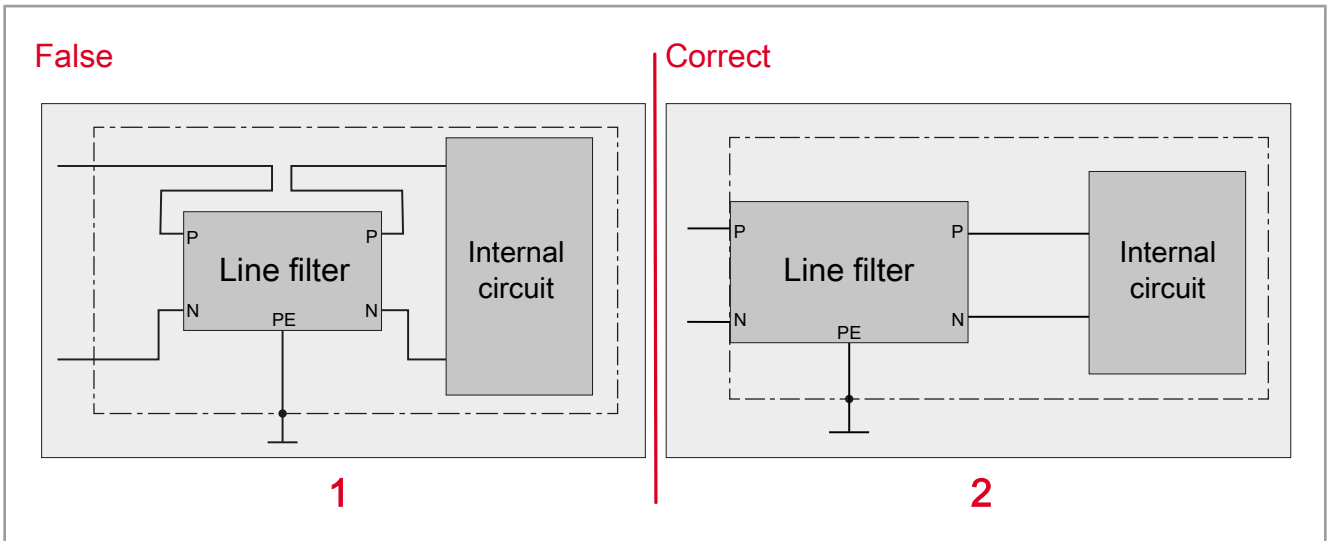

Fig. 3: Grounding Power Filter
- Connect both sides of the PE conductor, or at least one side, to the line filter. Do not lead along the line filter (see figure 3)